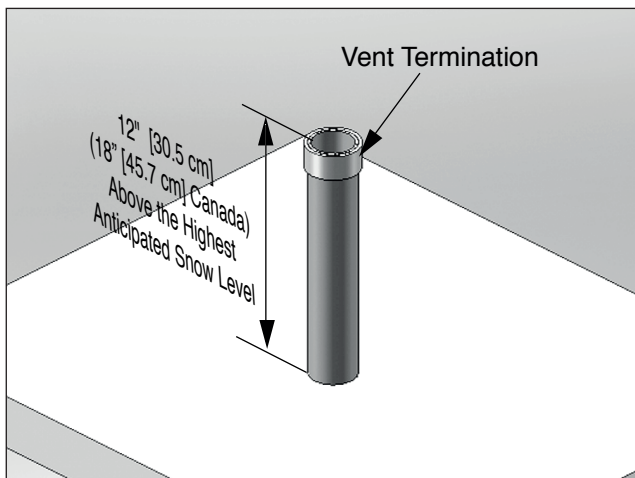

Fig. 15 - Category - IV - Vertical Termination of Vent Pipe
3. The vent piping must terminate vertically with a coupling to accept the bird screen and must be located 12" [30.5 cm] (18" [45.7 cm] in Canada) above the highest anticipated snow level as shown in **Fig. 15 on page 24 below**.
3. Locate the vent pipe penetration to provide clearances as described in *Fig. 15 on page 24*.
3. The vent piping must terminate vertically with a coupling as shown in *Fig. 15 on page 24*.
Do not extend the vent pipe above the roof beyond the dimensions shown in Fig. 15 on page 24. Extended exposure of the vent pipe could cause condensate to freeze and block the vent pipe, resulting in substantial property damage, serious injury, or death.